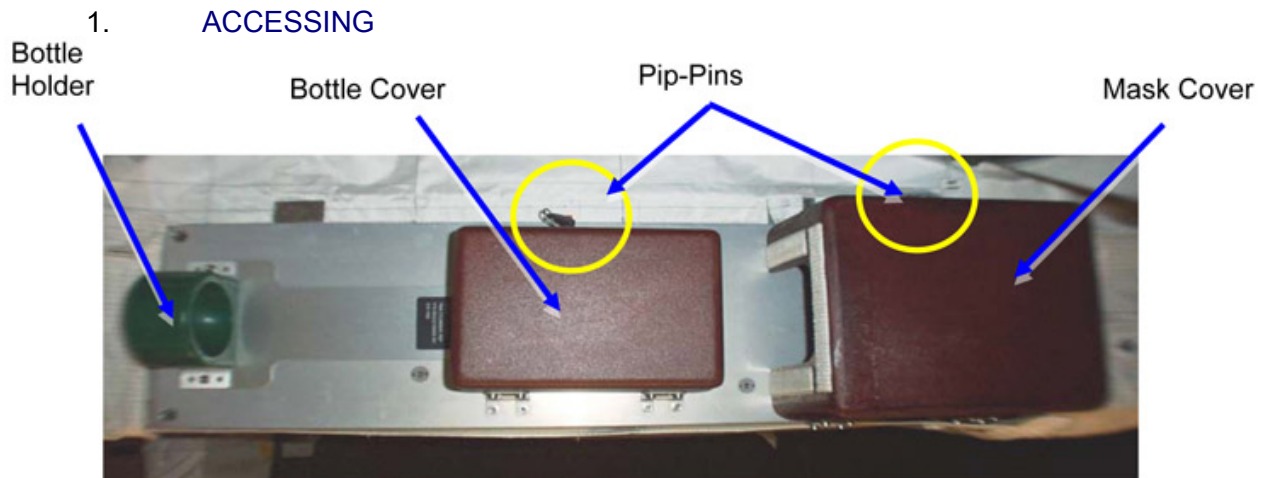

Figure 1-1 PBA1(2) Stowage Bracket Assembly (Covers Installed)
- 1.1 Release (tethered) pip-pins (2) and remove mask and bottle cover, (tmpry stow). Refer to Figure 1-1.